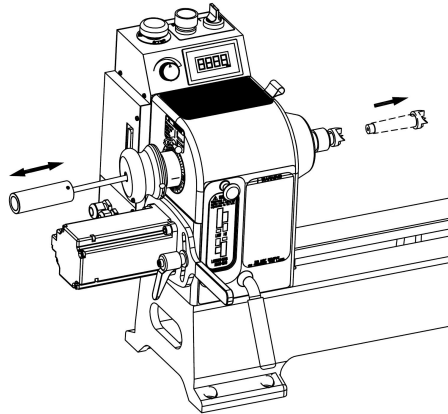

Figure 6
9.9. Using the Spur Center(Figure 6)